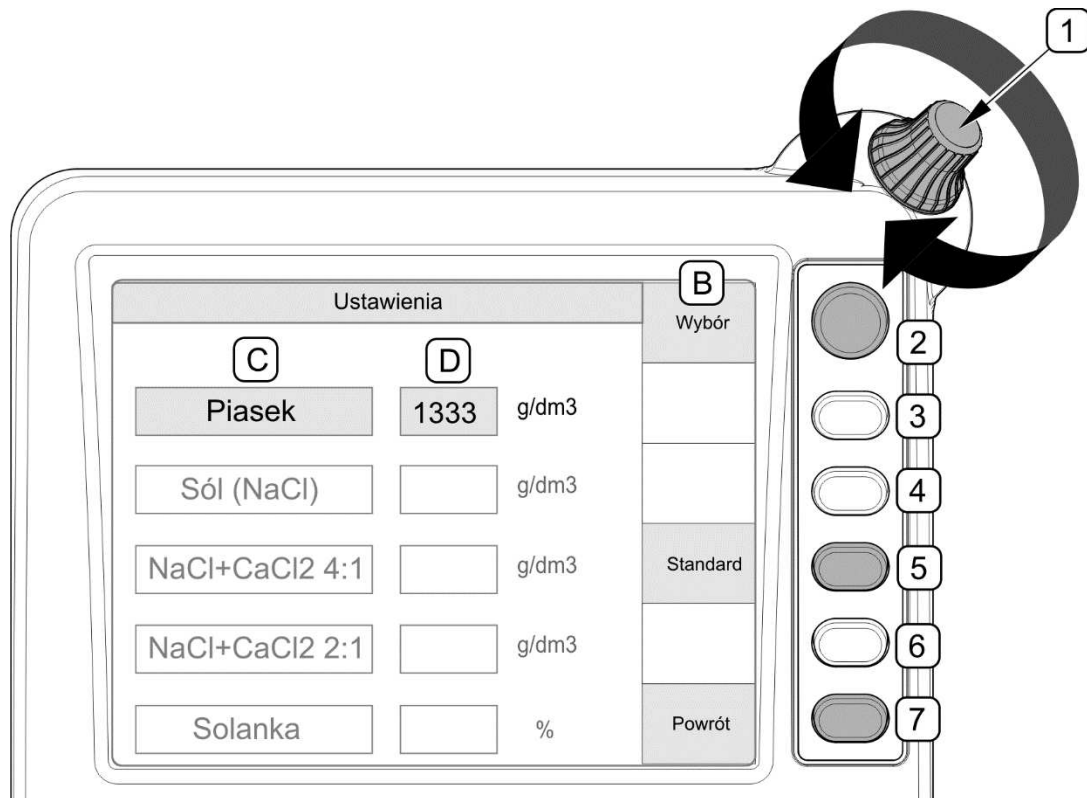

FIGURE 3.10 Example of control panel operation
Depending on a display menu page selected, (FIGURE 3.10) currently assigned functions (B) are displayed next to function push-buttons (2),(3),(4),(5),(6),(7). On each display menu page, different functions are displayed for a given push-button. Empty function field next to push-buttons (3),(4),(6) means that the push-buttons are not active at the moment (FIGURE 3.10). Knob (1) is used for moving to another field (C) and for changing values of parameters in field (D).